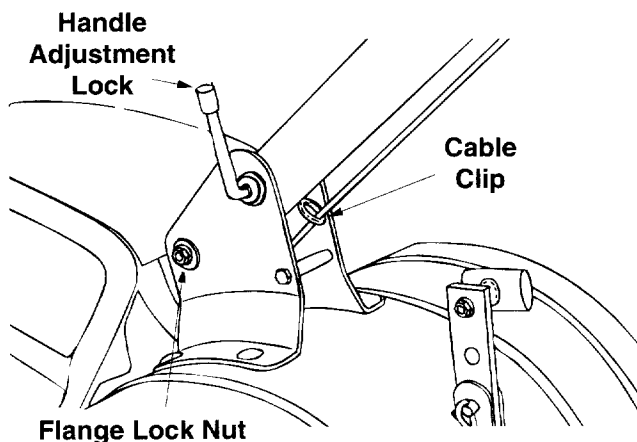
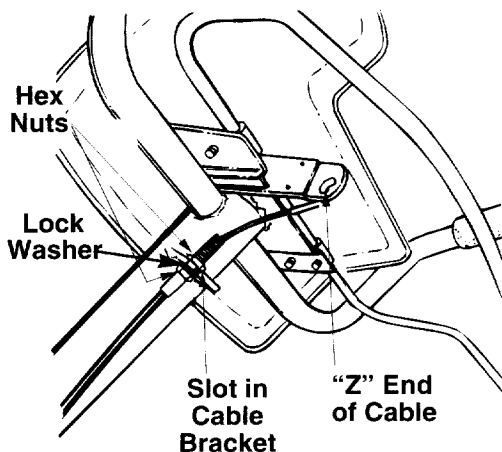

Figure 10
Figure 11 Viewed beneath handle panel.
1. Route the clutch cable underneath the handle and through the cable clip. Be careful not to bend or kink the cable. Refer to Figure 10. Remove one hex nut from the threaded casing on the end of the cable. See Figure 11.
3. Pull the cable upwards to obtain slack, and, from right to left, hook the "Z" end of the cable into the bracket on the clutch control (beneath the handle panel) as shown in Figure 11. Tighten the nut against the cable bracket.
If the belt turns with the unit in neutral, adjust by moving the hex nut below the cable bracket **down** a few turns. See Figure 11. Tighten the upper hex nut against the bracket.